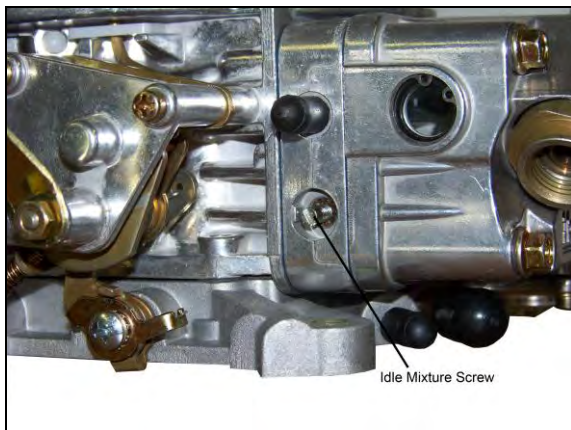

Figure 12
2. Adjust each idle mixture screw (**Figures 12 & 13**) 1/8 turn at a time, alternating between each screw. Turn them equally, until you achieve the highest possible vacuum reading without adjusting the curb idle speed screw. Turn screws in to lean the mixture. Turn them out to richen the mixture.